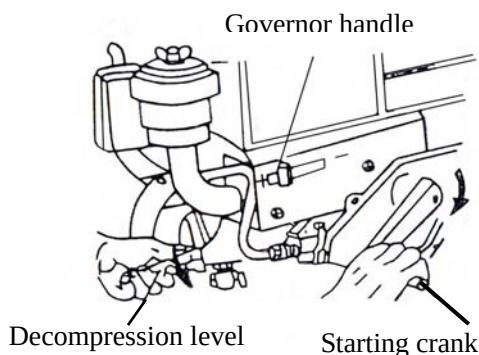

Fig.6 Starting engine with handle
3.1 Start-up diesel engine with the starting handle (See Fig.6).